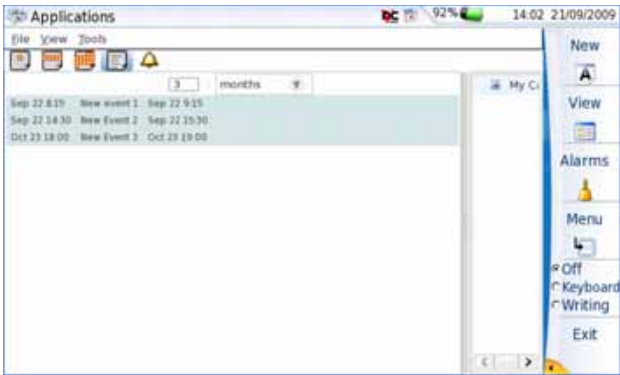

Fig. 62 View Agenda
- For example, in the Figure 62, the agenda displays the events registered for 3 months, starting from the current date.